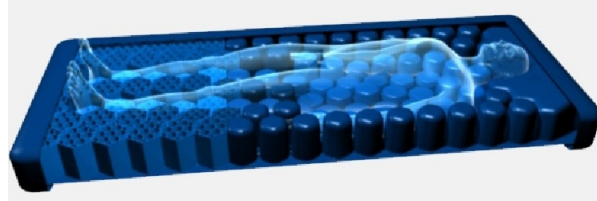

Figure 46 – Center the patient
2. Position the patient in the center of the support surface, align the patient's head toward the head board (Figure 46).